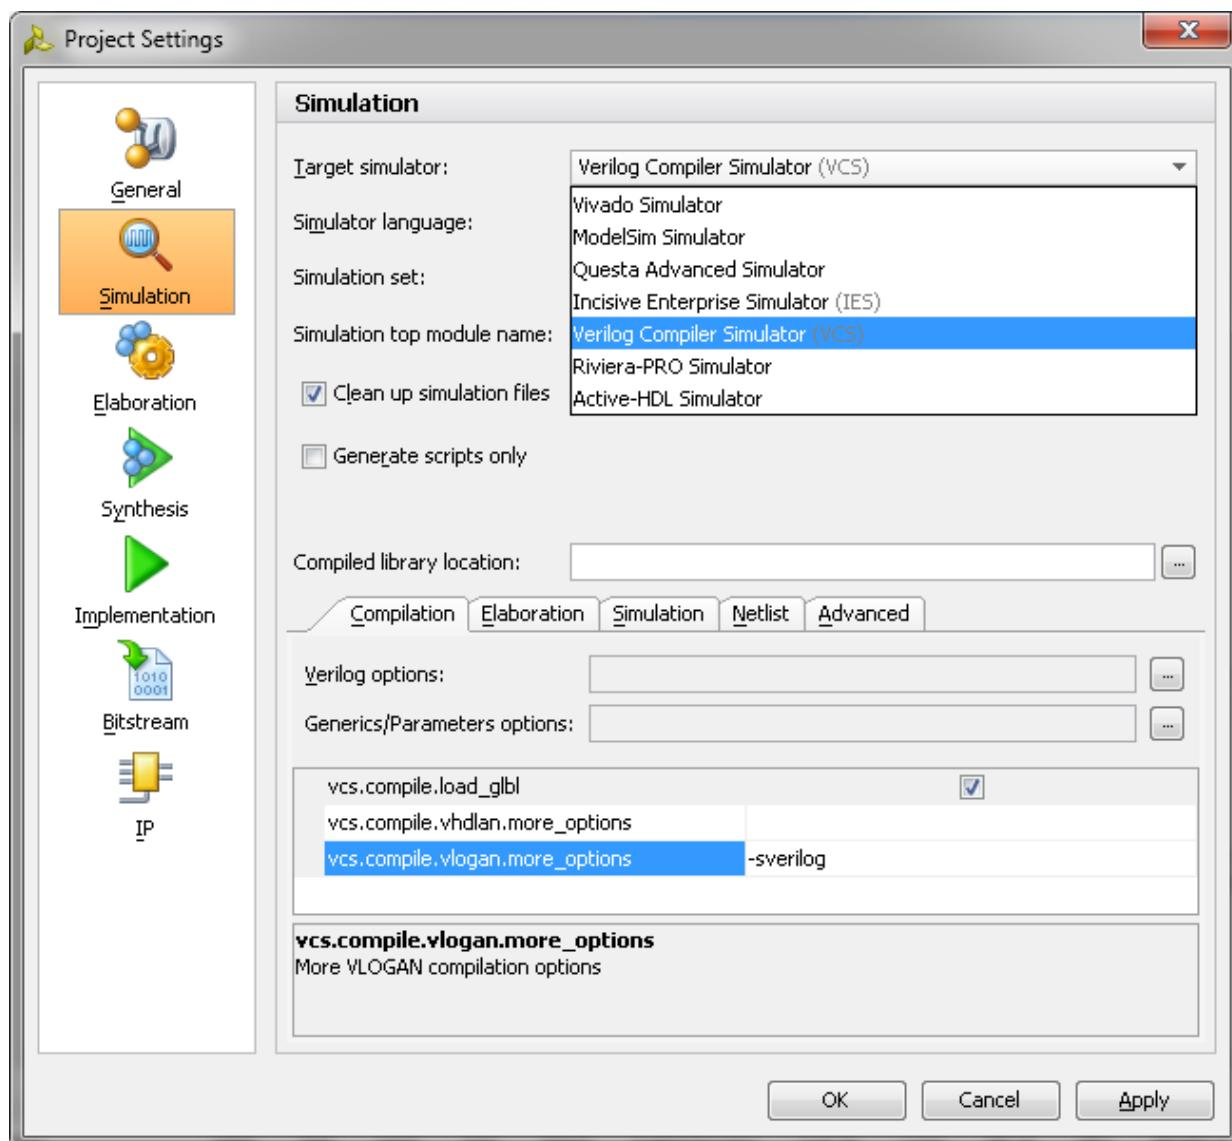

Figure 2-54: Simulation with VCS
- c. Under the **Simulation** tab, set the `vcs.simulate.runtime` to 1 ms (there are simulation RTL directives which stop the simulation after a certain period of time which is less than 1 ms) as shown in Figure 2-54.